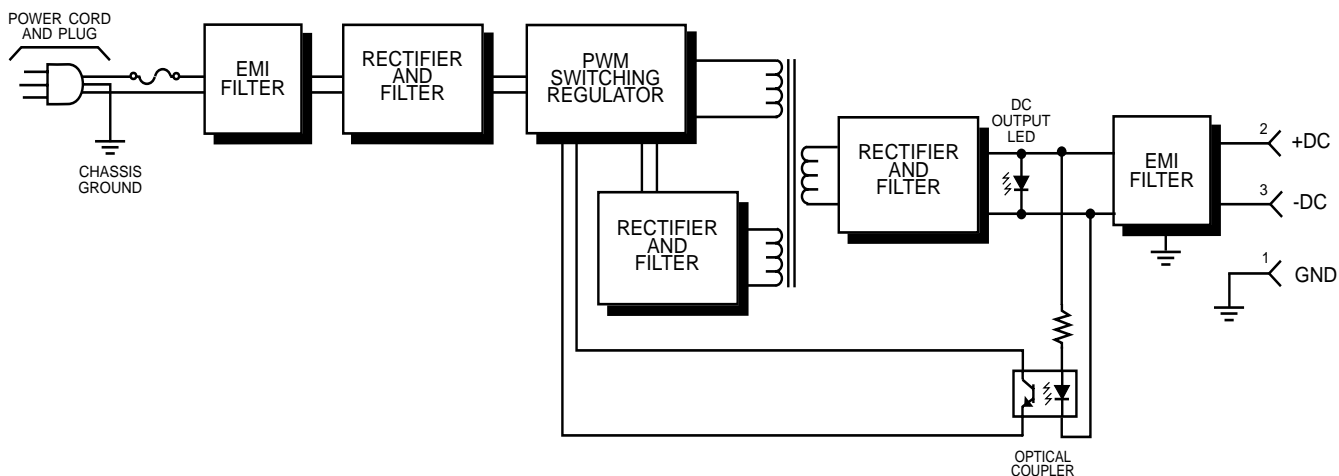

Figure 4 Model 722 Power Supply block diagram.
**5.1 GENERAL** The circuit description is intended to familiarize you with the Model 722 for engineering and applications use. Repairs to the unit should not be attempted as they will expose you to dangerous voltage levels. Please refer to the block diagram, Figure 4 (on page 4), when reading this technical description.